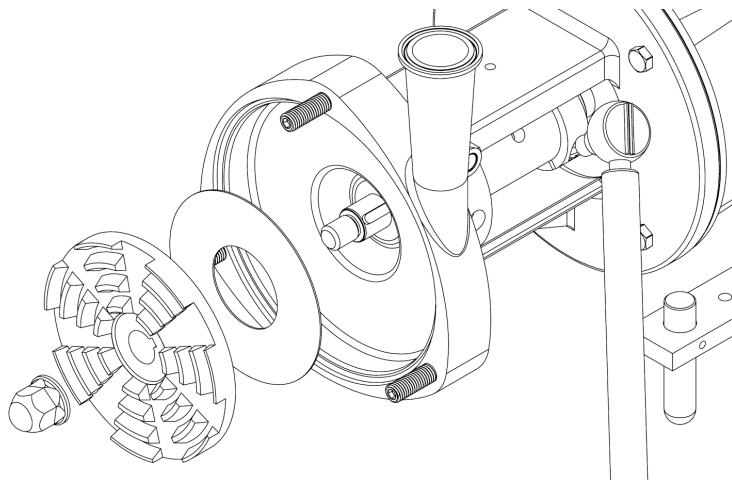

Figure 21
4. With the seal driver, shim (SB models) and key on the stub shaft, insert the impeller and impeller clearance shim into the casing on the stub shaft and tighten the impeller nut on the stub shaft, figure 21. While pushing the impeller nut, impeller, and shaft collar towards the motor slightly pinching the impeller clearance shim, tighten the socket head cap screw in the shaft collar. Torque the socket cap screw to the right torque value that correlates to the frame size of the motor. When the shaft collar screw is not torqued to the correct value the shaft may move during pump operation although the shaft cannot be moved by hand along the motors axis. Torquing the shaft collar screw more than the recommended value may break the screw.